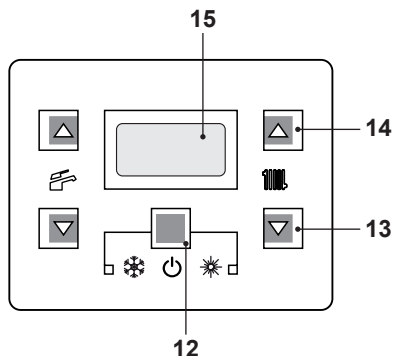

Fig. 7.11
- Press the 12 key for 2 seconds until  symbol appear on the display Fig. 7.11.
- Switch off the boiler by pressing the 12 (Fig. 7.11) key for 2 seconds until the  symbol appears on the LCD display (Fig. 7.10).
- Press the 12 key for 2 seconds until  symbol appear on the display Fig. 7.11. The LCD display displays the boiler temperature (primary circuit) and the  symbol; the °C symbol slowly flashes Fig. 7.12.
Press the reset key on the boiler control panel 12 (Fig. 7.11) to reset its functioning.